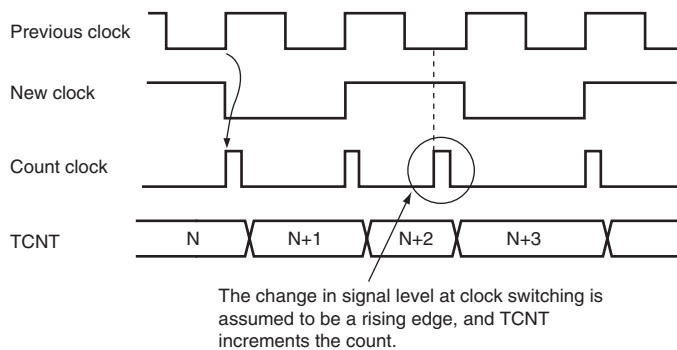

Figure 11.25 Internal Clock Switching and TCNT Operation
3. Depending on the timing, TCNT may be incremented by a switch between different internal clock sources. When TCNT is internally clocked, an increment pulse is generated from the rising edge of an internal clock signal, that is divided system clock (ϕ). Therefore, as shown in figure 11.25 the switch is from a low clock signal to a high clock signal, the switchover is seen as a rising edge, causing TCNT to increment.